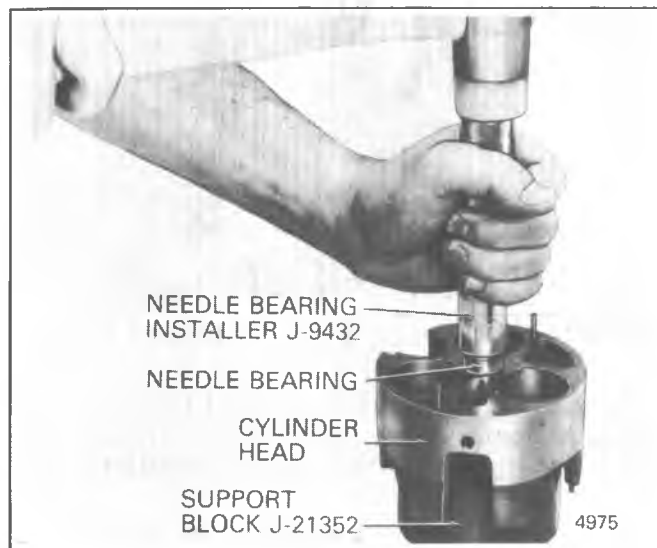

Figure 1D-40 Installing A-6 Needle Bearing
17. Wash all parts to be re-used with naphtha, stoddard solvent, kerosene, or a similar solvent. Air-dry parts using a source of clean, dry air. A-6 compressor internal components may be identified by referring to Figure 1D-2 and Figure 1D-3.